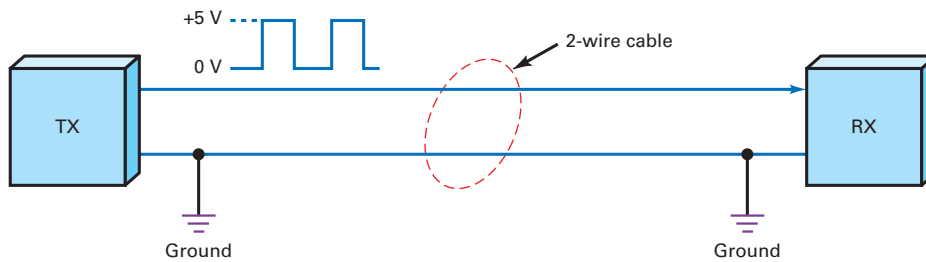

Figure S35-1 Single-ended serial data transmission.
Single-ended transmission lines use two wires, one of them connected to ground and the other to carry the data voltage referenced to ground. This kind of line is also called an *unbalanced line* since one side is grounded. Figure S35-1 shows a simple data communications application with a data source, the transmitter (TX), and the data destination, or the receiver (RX). The two are connected to one another with a pair of wires. One of the wires is connected to ground. Recall that in any piece of electronic equipment there is a common reference point called ground. All voltages in the circuitry are referenced to ground; that is, voltages at any point in the circuit are measured with respect to ground. In most circuits, the ground is the negative side of the dc power